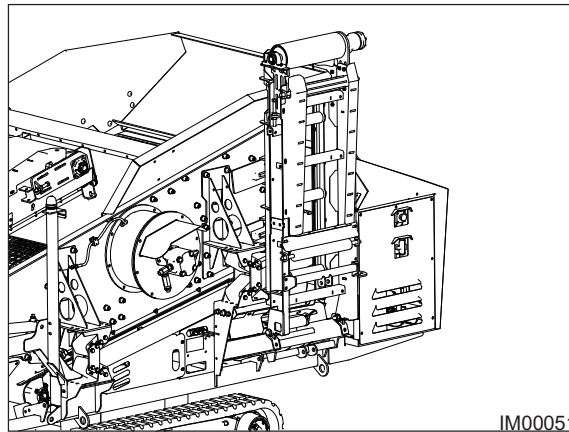

Fig: 10.11 - Fines Size Conveyor
5. Once the conveyor has folded into the transport position (Fig: 10.11), release the control lever.